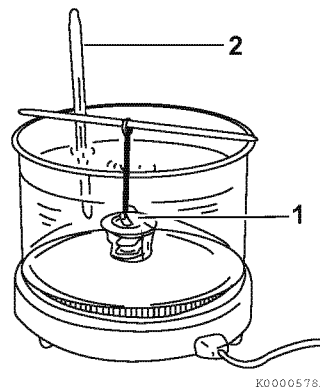

Figure 8-10
1. Check for proper operation of the thermostat. Place the thermostat (1, **Figure 8-10**) and an accurate thermometer (2, **Figure 8-10**) in warm water.